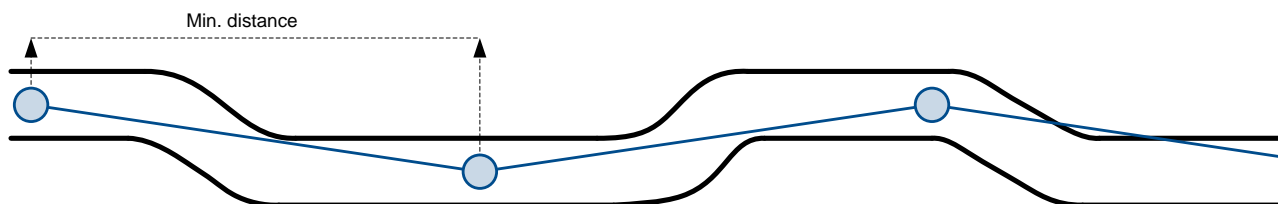

Figure 58 Distance based tracking
**Distance based data acquiring** (Figure 58) – records are being acquired when the distance between previous coordinate and current position is greater than defined parameter value. Entering zero means that data won't be recorded. This method is suitable for non-urban territories where moving trajectory is straight.